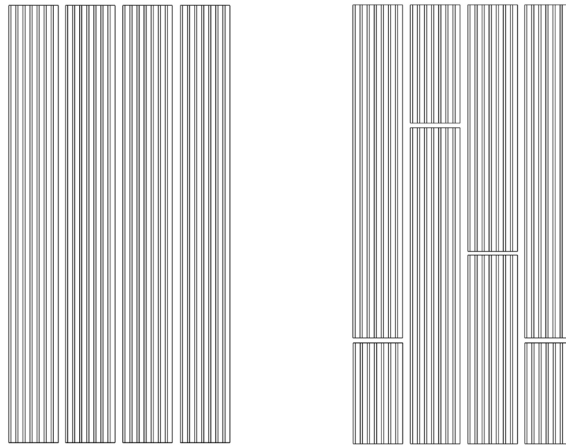

Figure.1 Installation of STRATA panels/planks (aligned or staggered).
- STRATA panels/planks installed on a wall can be positioned aligned or staggered (**Fig. 1**). A wall installation always requires a 1/2" reveal between the ends of the panels/planks. For wall installation, the visual line is more visually appealing with a 1/2" horizontal reveal. Take this into account during the design and installation phases.